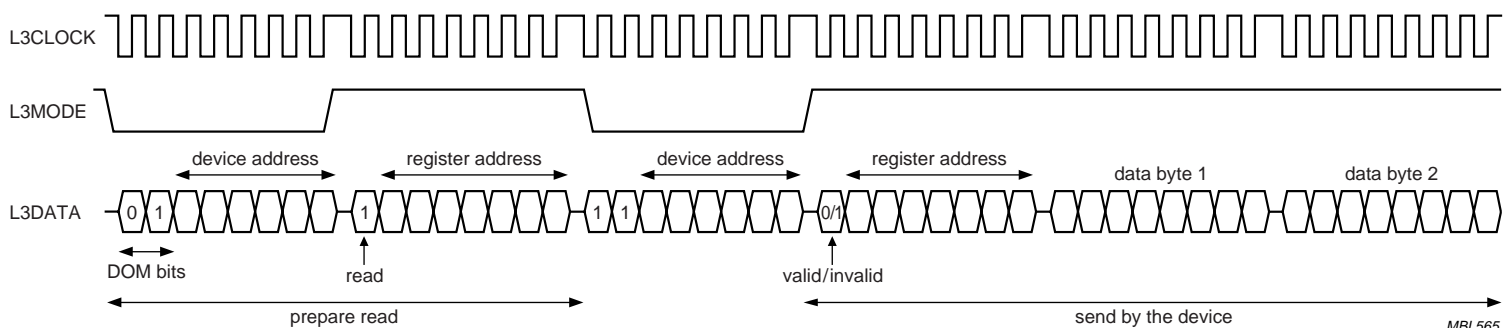

Fig.7 Data read mode.
2. Addressing for prepare read: bit 0 is logic 1, indicating that data will be read from the register (see Fig.7)
To read data from the device, a prepare read must first be done and then data read. The data read mode is explained in the signal diagram of Fig.7.